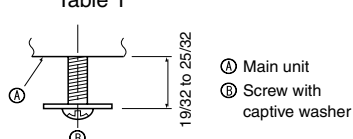

Fig. 9-5
9.4.1. Preparations (Fig. 9-5)
- Install the two enclosed screws with washer ② in the main unit (at the corner drain pipe area and at the opposite corner) as shown in the diagram.